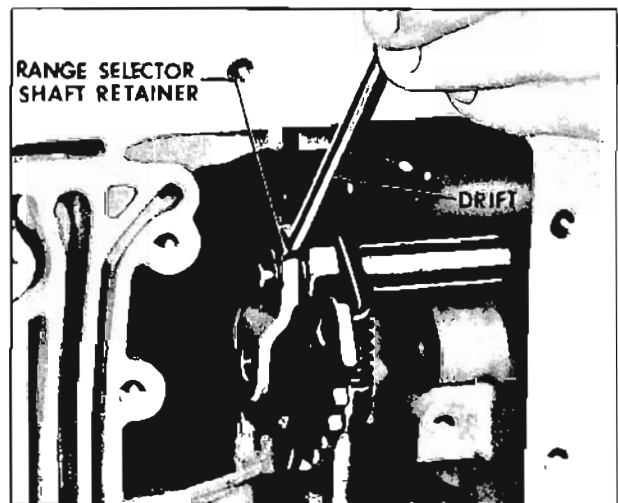

Fig. 6-415 Installing Retainer
6. Install range selector shaft retainer. (Fig. 6-415)